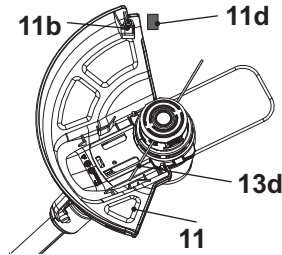

Fig. 13
The guard (11) protects the operator against thrown objects during operation. It is equipped with a knife (11b) that cuts the trimming line (13d) (Fig. 13).